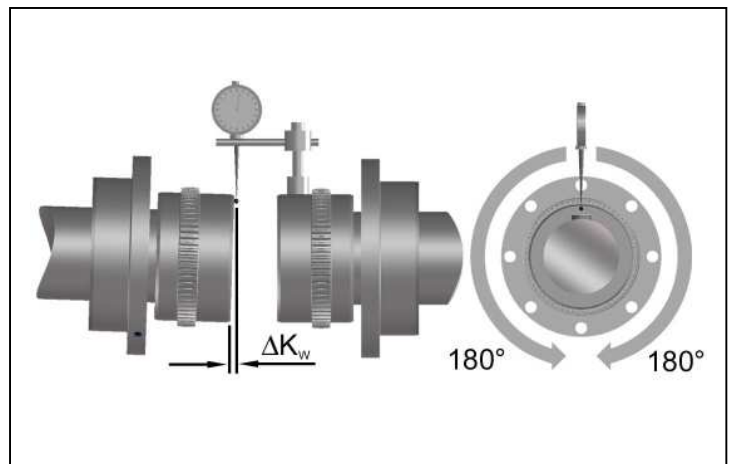

Fig. 10 Angular Misalignment ΔK_w messen
- Measure one complete revolution on the face of the outer diameter from one hub. To this purpose, turn the dial gauge by 360° . Determine the largest deviation ΔK_w (Fig. 10).